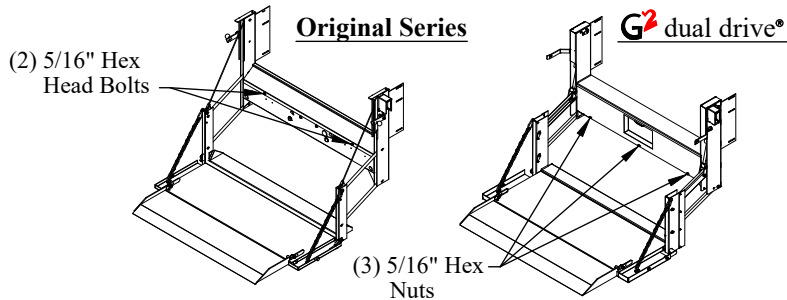

Figure 12: Box cover locations.
2. **Mark** two (2) 1/4" hole locations on the truck body using the tube holder as a guide.
3. **Check** for obstructions and **Drill** two (2) 1/4" holes in the positions marked in step 2.
4. **Fasten** the tube holder with the supplied two (2) 1/4"x3/4" bolts and two (2) 1/4" locking nuts.
5. **Remove** and **Discard** the black plastic plug in the rear of the liftgate for spare tire tube access (Figure 12).
1. Remove the box cover by removing the 5/16" hex head nuts or bolts (Figure 12).